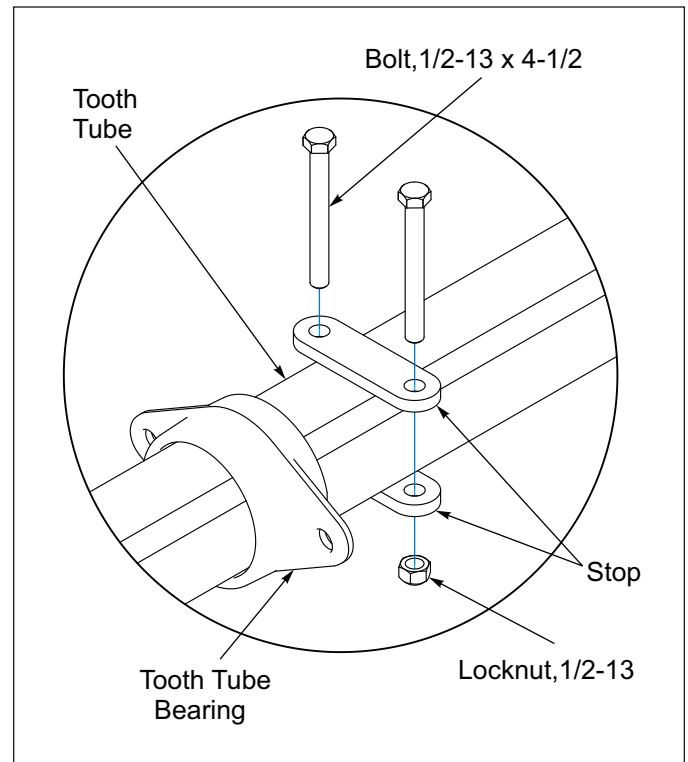

Figure 2-60: Wing Tooth Control Tube Stop
3. Place Stops on Tooth Control Tube against Tooth Tube Bearing to prevent Tooth Control Tube from sliding right or left. Secure with 1/2-13 x 4-1/2 Bolts and Locknuts. See **Figures 2-60, 2-61 and 2-62**.